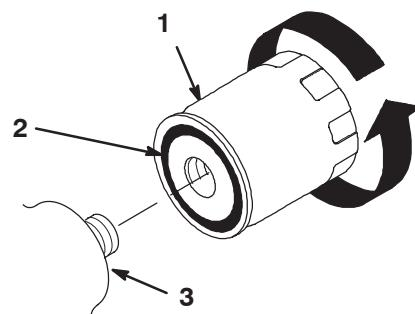

Figure 24
- Apply a thin coat hydraulic fluid to the rubber gasket on the replacement filter (Fig. 24).
- Install the replacement hydraulic filter onto the filter adapter. Tighten it clockwise until the rubber gasket contacts the filter adapter, then tighten the filter an additional 1/2 turn (Fig. 24).